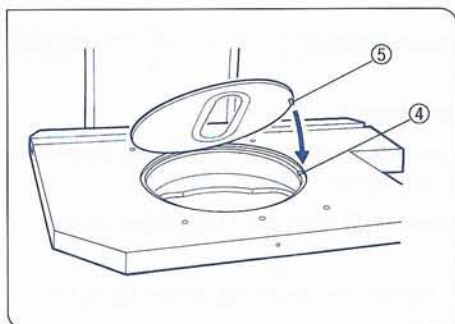

Fig. 4
Attach the stage plate by aligning the stage pin hole on the stage ④ with the guide pin ⑤ on the stage plate. (Fig. 4)